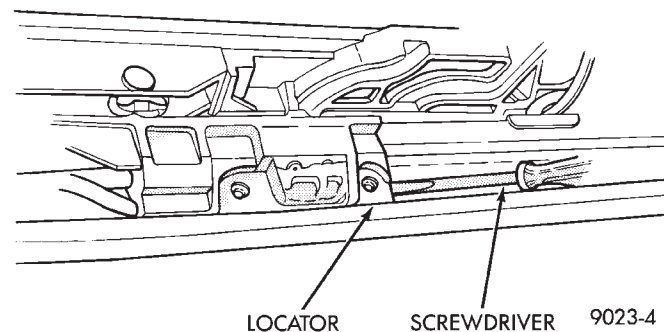

Fig. 4 Removing Cable Drive Locator
- (1) Position glass 19 mm (0.75 in.) until rearward cable locator is visible.
- (2) Remove screws holding drive cable locator to unit.
- (3) Remove travel limiting micro switch grommet and disconnect wire connector.
- (4) Insert a small screwdriver under rear edge of locator and pry locator from track Fig. 4.